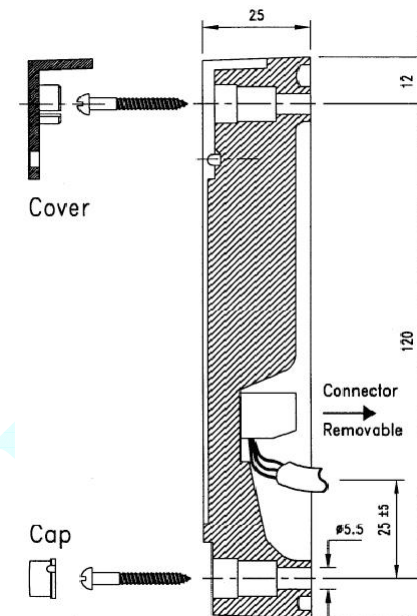

Figure 1 Mullion Mounting
1. Drill two holes for mounting the reader (see Figure 1 Mullion Mounting, page 11). Do not mount readers less than 20 cm (7.87 in) from each other. Make sure that enough room to connect the cable is allowed. Protect the cable against sharp edges and any damage from chaffing.